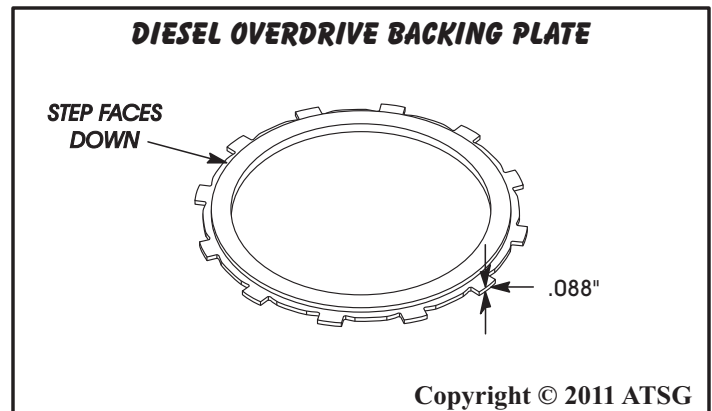

Figure 199
*Note: Diesel models use a stepped backing plate, as shown in Figure 199, and step faces the snap ring.*